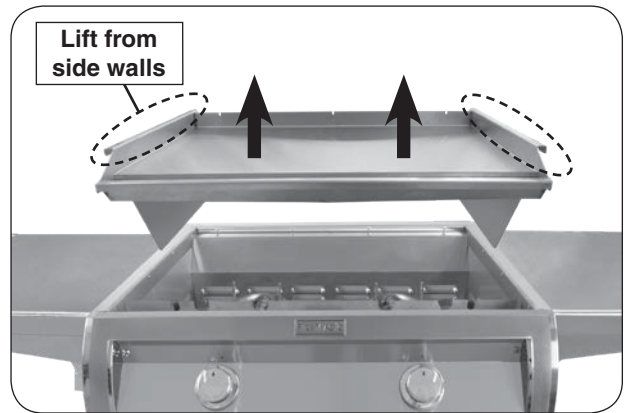

Fig. 16-2 Remove griddle top
**Note:** Lift the griddle top from the left and right raised walls. See Fig. 16-2.